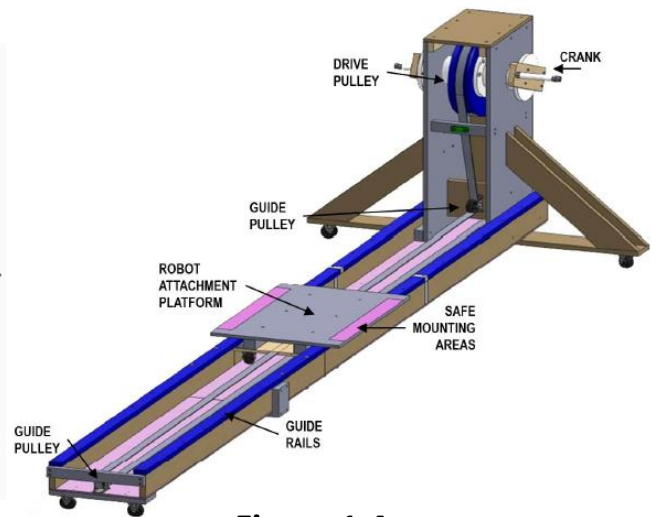

Figure 1.4
- Robot Trolley Overview:** The entire trolley assembly is operated by the spotter and used to position the robot. It is rotated about a pivot point for movement between fabrication areas. The three major parts are: the robot attachment platform which is a 23" x 15.75" plywood base with a four wheeled skates on which the robot must mount with clamps in the safe mounting area, the guide rails are 9' x 12" x 4" (LxWxH) with the plywood base and is screwed onto the Lazy Susan whose pivot point is 3 ½ feet from each side the field, the pulley system has a drive pulley with 25 gallon bucket lids screwed to the back with two 4" flanges as spacers, and the drive pulley and crank are positioned on a 36 inch tower with the crank approximately 30 inches above the ground (the guide pulleys of the 2 inch casters are located on the tower and guide rails). The trolley safety arc is located at the opposite end of the trolley from the spotter with the trolley wheels running along it. The spotter box is a portion of the robot trolley area roughly defined as a 7' square with a 2' indentation at the pivot assembly. **Figure 1.4**